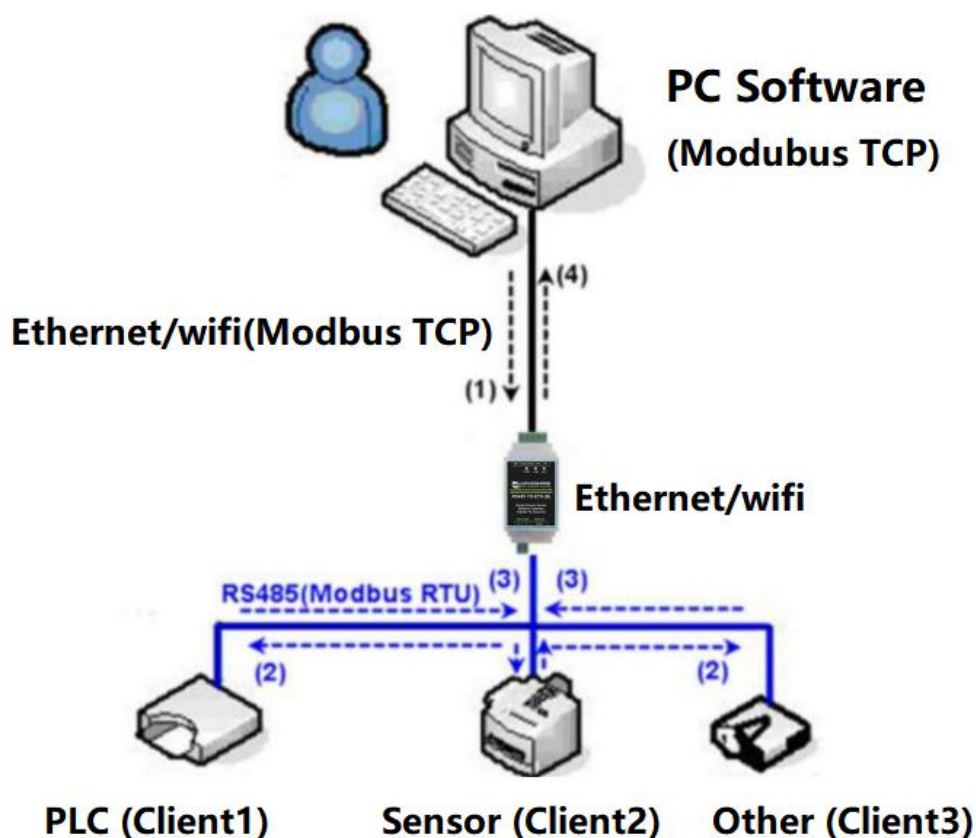

Figure 26 Working Mode of Storage Modbus Gateway
As shown in Figure 26: The general Modbus TCP data flow direction is (1) (2) (3) (4). That is, the Modbus TCP command is first converted into the corresponding command of Modbus RTU, and then the device responds to the Modbus RTU command to the Modbus gateway, and then the Modbus gateway is converted to Modbus TCP again and sent to the monitoring host computer.